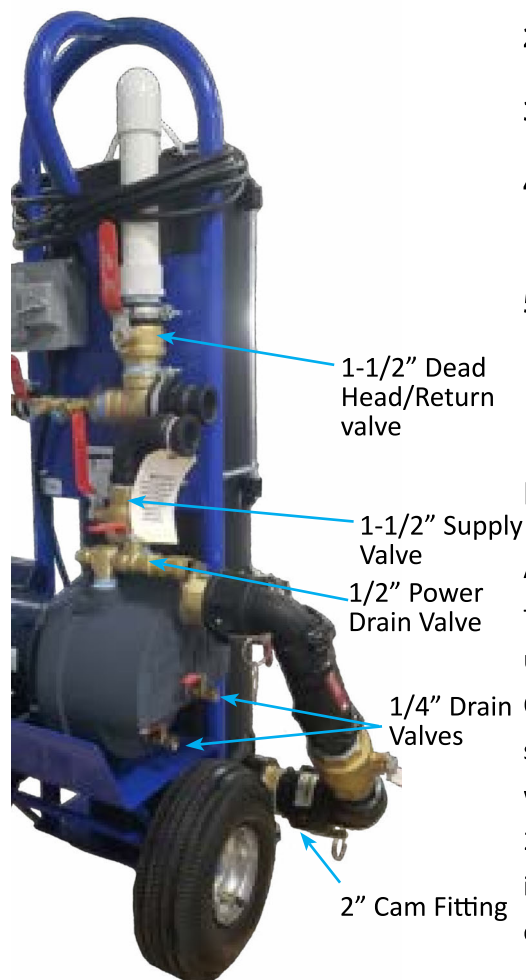

Figure 25: Flush Cart Valves in emptying the tank
1. Connect a garden or transfer hose to the 1/2" power drain valve (Figure 25) on the pump. Direct the other end of the hose to an appropriate disposal area or storage tank.
2. Close the 1-1/2" supply valve (Figure 25).
3. Open the 1/2" power drain valve (Figure 25).
Optional 1 micron filter (PN 3832) is typically a 1 time use filter. Be sure that all debris is cleaned from the tank and hoses. Drain all water from the tank and pump. Open both 1/4" drain valves (Figure 25) on the pump to ensure that all fluid has exited the pump housing. Failure to complete this step could result in the pump housing cracking if the fluid inside freezes.